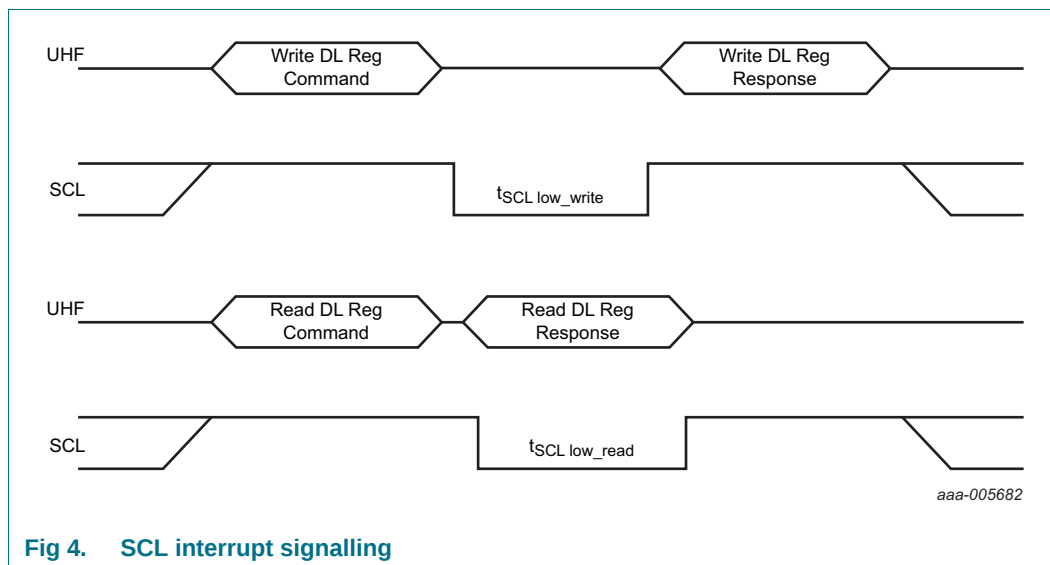

Fig 4. SCL interrupt signalling
- If the SCL INT enabler of the ConfigWord is set (20Bh) the SCL line will be pulled low for at least 210 μ s in case new data was written by the reader or at least 85 μ s in case new data has been read by the reader (see Figure 4 "SCL interrupt signalling" and Table 8 "Interrupt signaling via the I2C-SCL line timing").